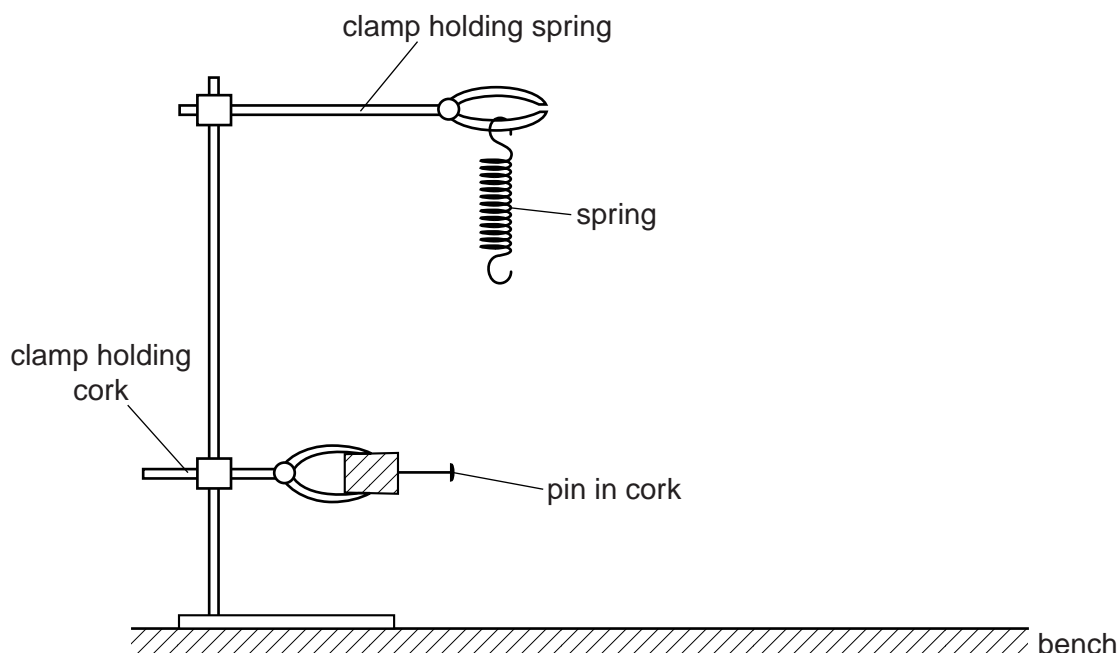

Fig. 1.1
3. Set up the apparatus as shown in Fig. 1.1, with no mass attached to the spring. The pin should be positioned so that when a mass is attached to the spring, the pin is close to the mass.
Check that the apparatus is set up ready for the next candidate, as shown in Fig. 1.1.